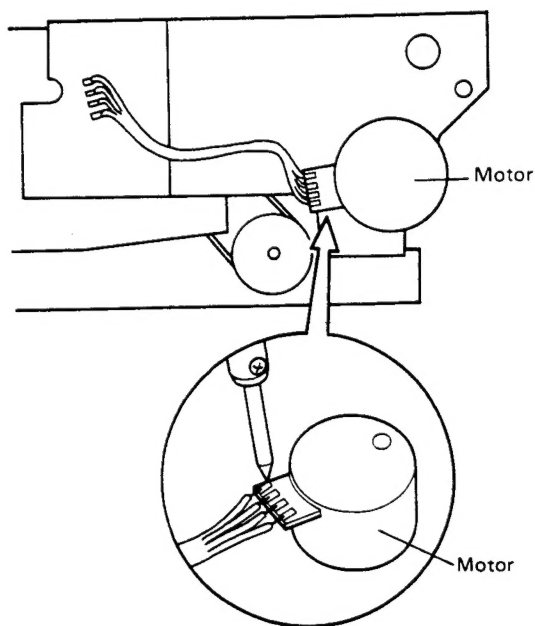

Fig. 13-5 Removal of motor lead wires
2. Remove the lead wires of the motor from motor. (See Fig13-5)